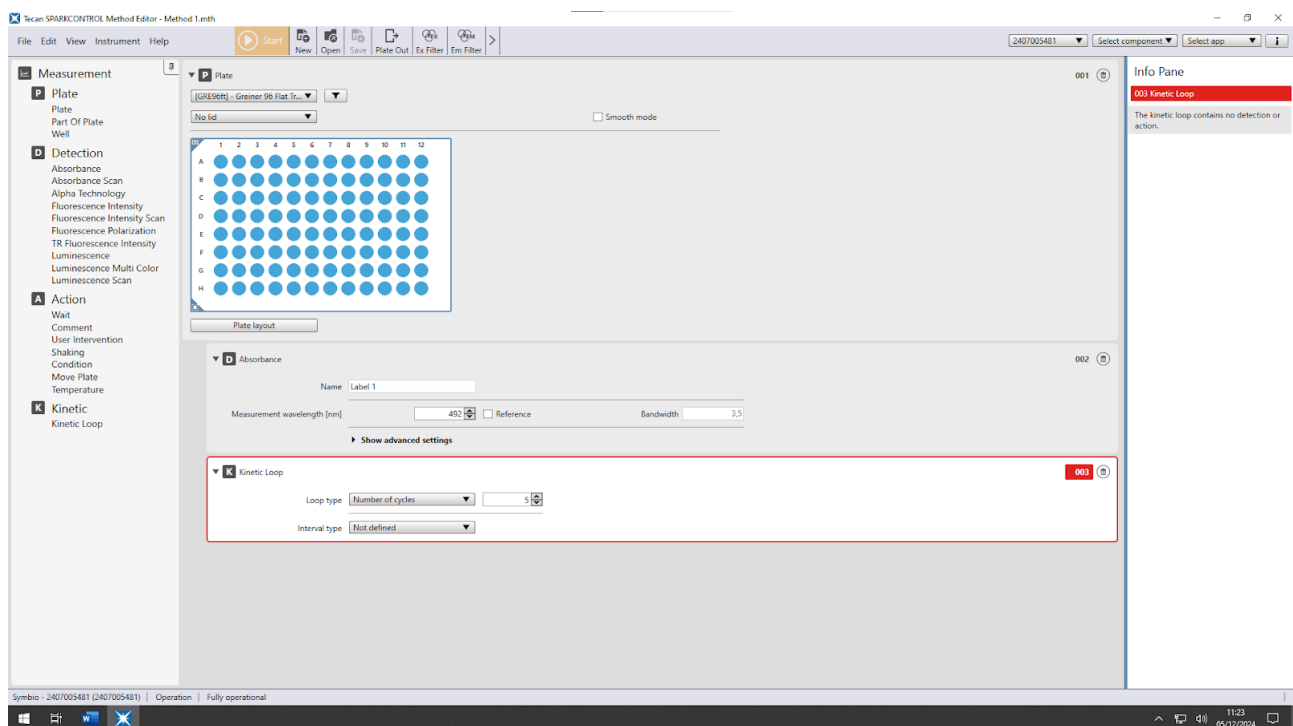

Figure 6. Error in the Info Pane.
- The Info Pane (9 in in Figure 3) provides additional information during the method editing (e.g. inconsistency in the method, Figure 6). It is not possible to run a method until the Info Pane is “OK”.